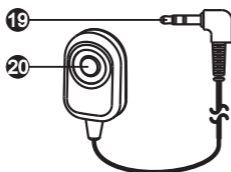

Fig. 17
7. External Mute Switch cable (optional), Fig. 17:
- ① External Mute Switch plug.
- ② External Mute button switch.